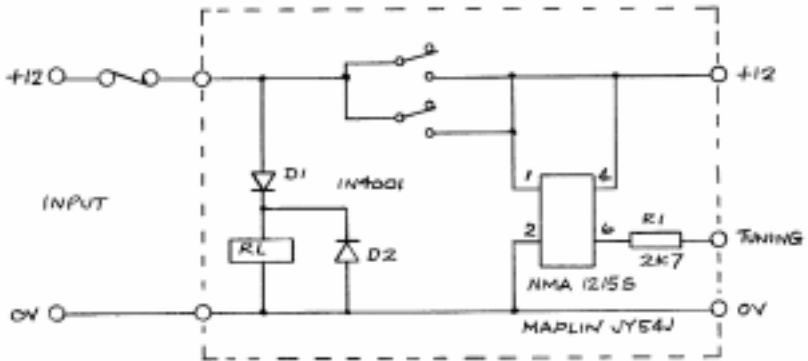
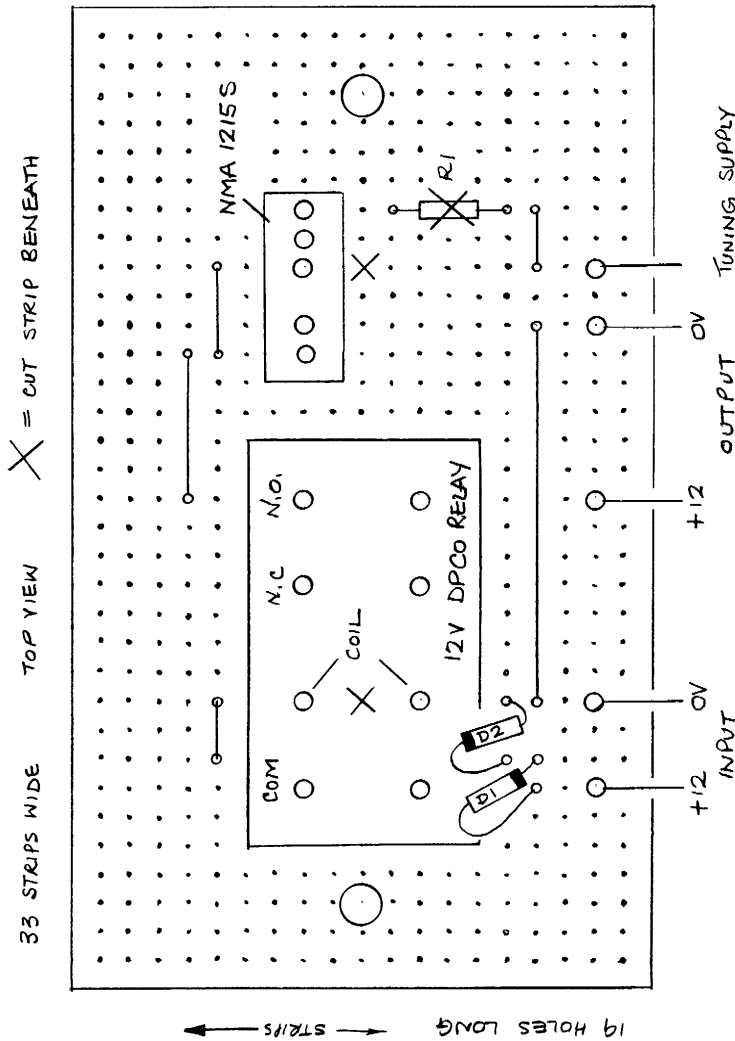

Figure 2. Circuit diagram
FIG. 1. VEROBOARD LAYOUT
3. Make up the Veroboard panel as shown in Fig.1. This carries the dc-dc converter for the main tuning supply and the optional reverse-polarity protection relay. The relay used is a National NF2-12V but almost any 12V type would be suitable, but the pin connections may be different. The circuit is shown in Fig.2. The panel can be supported on pillars using the fixing holes vacated by the transformer. If the reverse-polarity protection is not required then the relay and associated diodes may be omitted and the +12V input linked directly to the +12V output.